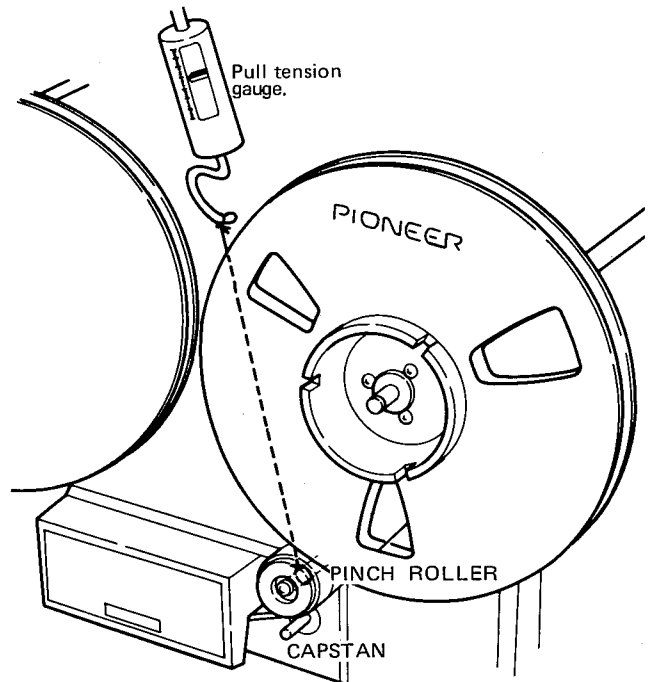

Fig. 14
6. Play tape at constant speed (7-1/2 ips) hook tension gauge as in Fig. 14, then pull the gauge, and confirm the value when travel is stopped in 1.7kg ~ 2kg range.